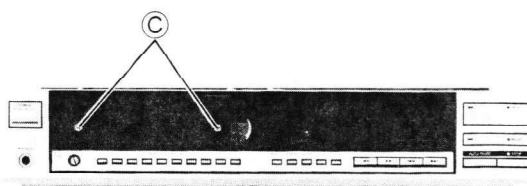

Figure 6
5. Remove two screws (C) (3φ x 6mm) securing plate.
6. Close disc holder. (Figure 6)